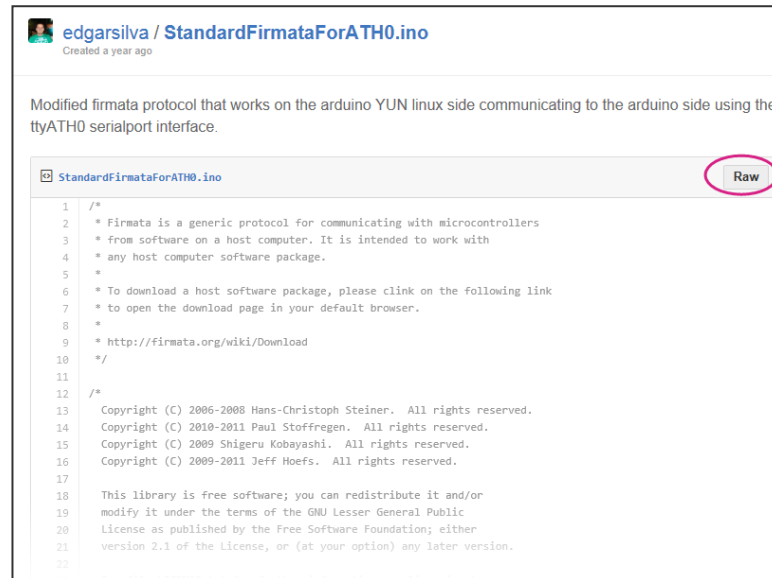

Figure 58 Copying example code from Github
- 2) Copy the Firmata example to Arduino, you do this by opening a browser and click here. You'll see a Firmata example code. Click on **Raw** button to copy the code, as shown in Figure 58 below.
- 2) Copy the Firmata example, you do this by opening a browser and click here. You'll see a Firmata example code. Click on **Raw** button to copy the code, similar to Figure 58.